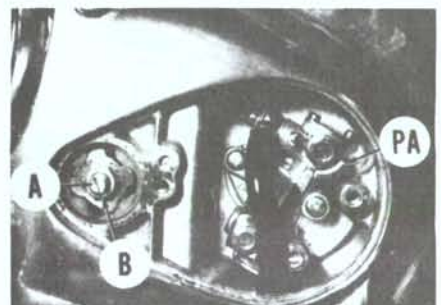

Fig. K13-11—View of clutch adjuster and rear drive chain oil pump.
A small oil pump driven by transmission output shaft is used to lubricate rear drive chain. Drive chain lubricant tank is mounted on left side of motorcycle and should be serviced with SAE 90 gear oil. Pump output may be varied by moving pump adjuster arm (PA—Fig. K13-11).
CLUTCH CONTROLS. Clutch may be adjusted as follows: Remove clutch adjuster cover on left side of engine and turn cable adjusters to obtain maximum slack in control cable. Loosen lock nut (B—Fig. K13-11) and back adjusting screw (A) out until it is loose. Turn adjusting screw in until a resistance is felt then back out ½ turn from point of resistance. Tighten lock nut on adjusting screw. Use cable adjusters to obtain 2-3mm (0.08-0.12 inch) free play at gap of handle pivot.